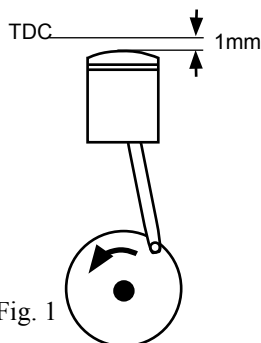

Fig. 1
- Step 4** Move piston to 1mm BTDC (see fig 1.) - this is normally set with a dial guage located in the spark plug hole. This will give a maximum total advance of about 35°, this is only a guide. Engine tune will affect the actual timing for optimum performance.